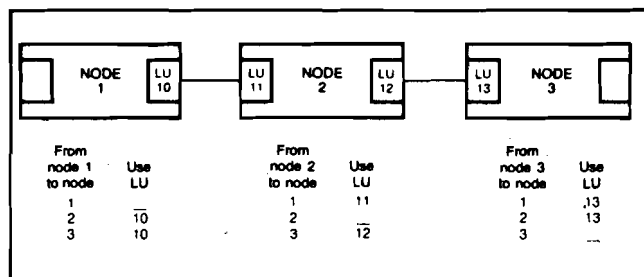

Figure 1. Nodal Addressing in DS/1000-IV Network
Node numbers for DS/1000 network connections are specified after an RTE operating system has been generated and loaded. A Nodal Routing Vector (NRV), which specifies the Logical Unit (LU) number through which a DS/1000 transaction goes from the local node to the target node, can be specified interactively or read from a file at each DS/1000 node. In each node, this file specifies the logical unit connections required to get to any accessible node, as shown in Figure 1.
Using the example of Figure 1, a transaction goes from node 1 to node 2 or 3 via LU10. At node 2, the DS/1000 communications management modules examine the destination node address in the message and either route the message to the local network interface monitors for processing if addressed to node 2, or forward the message to node 3 via LU12. In this way a single communications path is established between any two DS/1000 nodes, regardless of whether there is a direct, neighbor connection between them. Store-and-forward communications are not limited to a specified number of levels. However, store and forward to or through an HP 3000 system is not supported.